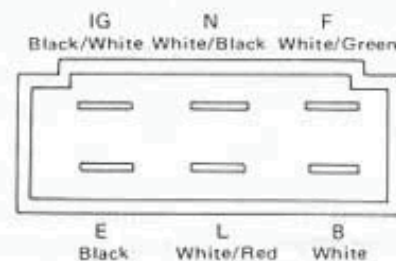

Fig. 11-20
- Open circuit in the line to "N" or "B" terminal of the regulator unit. (Refer to Fig. 11-20)
(2) Continuity test on field coil